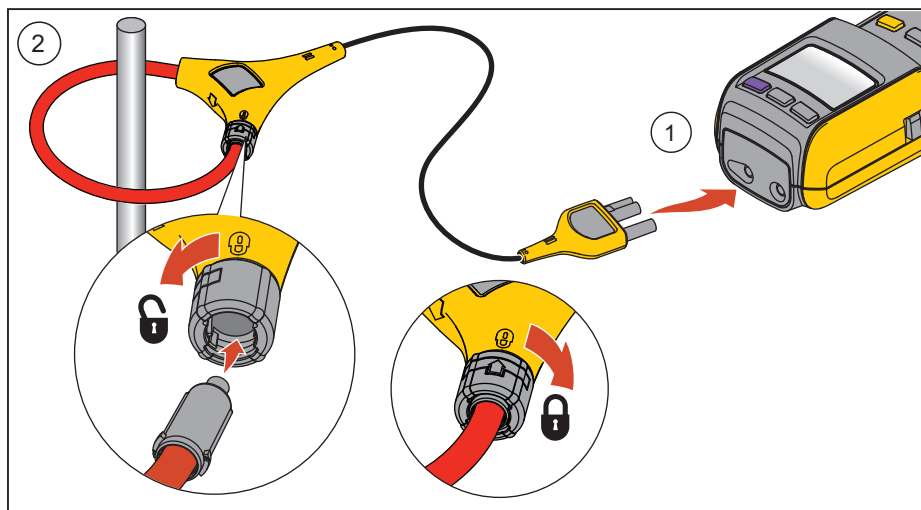

Figure 5. Flexible Current Probe Connection
1. Connect the Flexible Current Probe to the Meter. See Figure 5.
2. Connect the flexible part of the Flexible Current Probe around the conductor. If opening the end of the Flexible Current Probe to make the connection, make sure that you close and latch it. See the detail in Figure 5. You should be able to hear and feel the Flexible Current Probe lock snap into place.